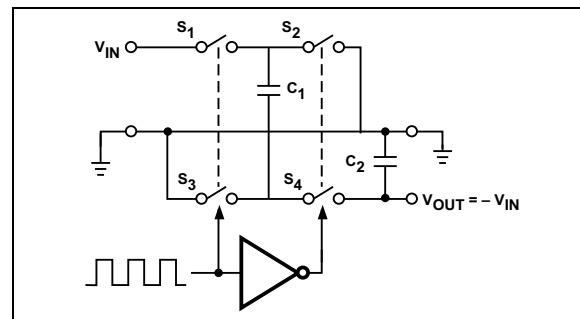
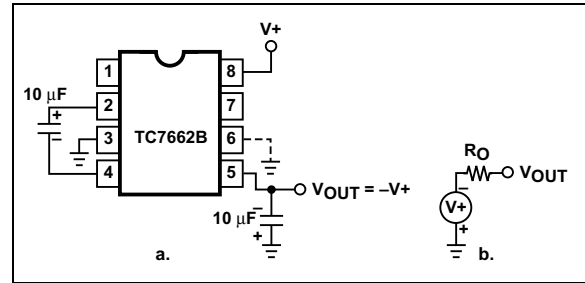
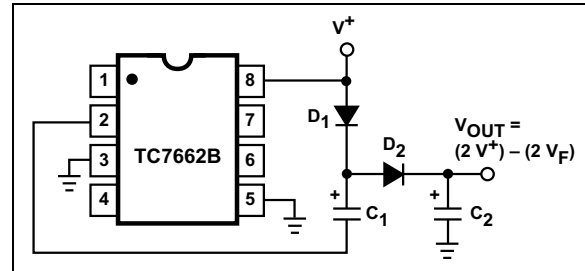
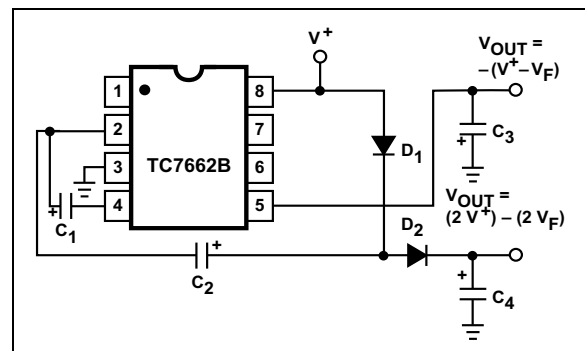

FIGURE 4-2: Idealized Negative Voltage Capacitor.
**FIGURE 5-1:** Simple Negative Converter and its Output Equivalent.
**FIGURE 5-7:** Positive Voltage Multiplier.
**FIGURE 5-8:** Combined Negative Converter and Positive Doubler.
The TC7662B contains all the necessary circuitry to complete a negative voltage converter, with the exception of two external capacitors which may be inexpensive 1  $\mu\text{F}$  polarized electrolytic types. The mode of operation of the device may be best understood by considering Figure 4-2, which shows an idealized negative voltage converter. Capacitor  $C_1$  is charged to a voltage  $V^+$  for the 1/2 cycle when switches  $S_1$  and  $S_3$  are closed. (Note: Switches  $S_2$  and  $S_4$  are open during this 1/2 cycle.) During the second 1/2 cycle of operation, switches  $S_2$  and  $S_4$  are closed, with  $S_1$  and  $S_3$  open, thereby shifting capacitor  $C_1$  negatively by  $V^+$  volts. Charge is then transferred from  $C_1$  to  $C_2$  such that the voltage on  $C_2$  is exactly  $V^+$ , assuming ideal switches and no load on  $C_2$ . The TC7662B approaches this ideal situation more closely than existing non-mechanical circuits.
In the TC7662B, the four switches of Figure 4-2 are MOS power switches;  $S_1$  is a P-channel device and  $S_2$ ,  $S_3$  and  $S_4$  are N-channel devices. The main difficulty with this approach is that in integrating the switches, the substrates of  $S_3$  and  $S_4$  must always remain reverse biased with respect to their sources, but not so much as to degrade their "ON" resistances. In addition, at circuit start-up, and under output short circuit conditions ( $V_{\text{OUT}} = V^+$ ), the output voltage must be sensed and the substrate bias adjusted accordingly. Failure to accomplish this would result in high-power losses and probable device latch-up.
The majority of applications will undoubtedly utilize the TC7662B for generation of negative supply voltages. Figure 5-1 shows typical connections to provide a negative supply where a positive supply of +1.5V to +15V is available. Keep in mind that pin 6 (LV) is tied to the supply negative (GND) for supply voltages below 3.5V.
The output characteristics of the circuit in Figure 5-1 can be approximated by an ideal voltage source in series with a resistance as shown in Figure 5-1, section b. The voltage source has a value of  $-(V+)$ . The output impedance ( $R_O$ ) is a function of the ON resistance of the internal MOS switches (shown in Figure 4-2), the switching frequency, the value of  $C_1$  and  $C_2$  and the ESR (equivalent series resistance) of  $C_1$  and  $C_2$ . A good first order approximation for  $R_O$  is in Equation 5-1.
The TC7662B may be employed to achieve positive voltage doubling using the circuit shown in Figure 5-7. In this application, the TC7662B's pump inverter switches are used to charge C1 to a voltage level of  $V^+ - V_F$  (where  $V^+$  is the supply voltage and  $V_F$  is the forward voltage on C1 plus the supply voltage ( $V^+$ ) applied through diode D2 to capacitor C2). The voltage thus created on C2 becomes  $(2 V^+) - (2 V_F)$ , or twice the supply voltage minus the combined forward voltage drops of diodes D1 and D2.
Figure 5-8 combines the functions shown in Figure 5-1 and Figure 5-7 to provide negative voltage conversion and positive voltage doubling simultaneously. This approach would be, for example, suitable for generating +9V and -5V from an existing +5V supply. In this instance, capacitors C1 and C3 perform the pump and reservoir functions, respectively, for the generation of the negative voltage, while capacitors C2 and C4 are pump and reservoir, respectively, for the doubled positive voltage. There is a penalty in this configuration which combines both functions, however, the source impedances of the generated supplies will be somewhat higher due to the finite impedance of the common charge pump driver at pin 2 of the device.